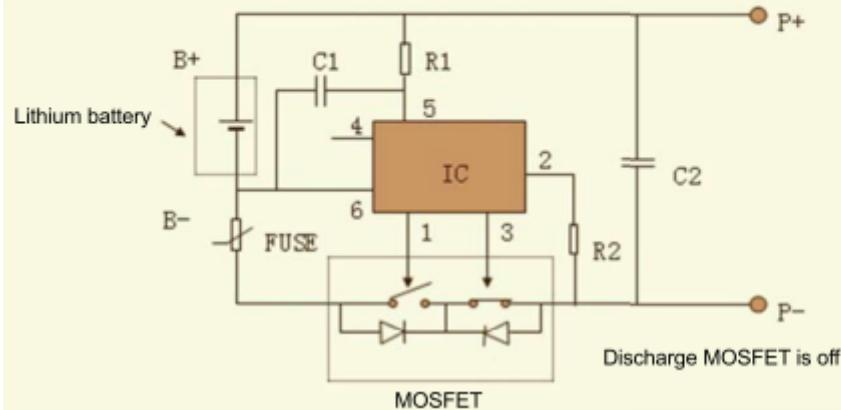
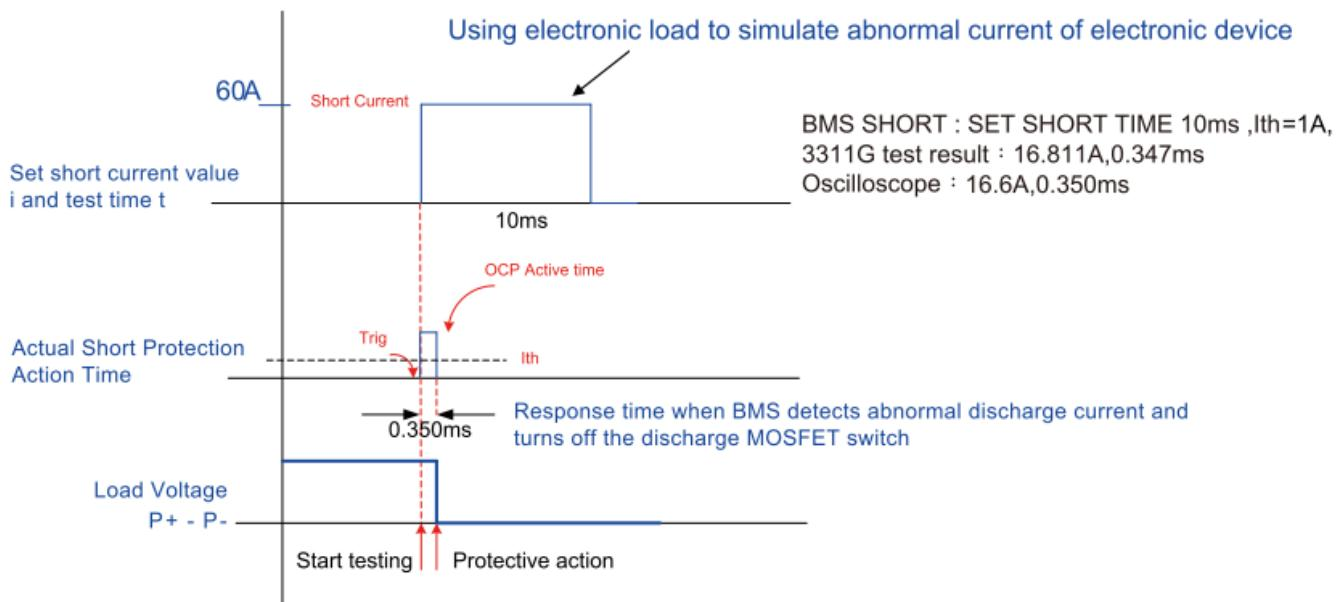

Figure 2.1 BMS internal architecture
Figure 2.3 3311G short-circuit current test procedure diagram
- Short-circuit protection (SHORT) test method: Power supply (PS) & LOAD connection is shown in Figure 2.1, LOAD test procedure is shown in Figure 2.3.